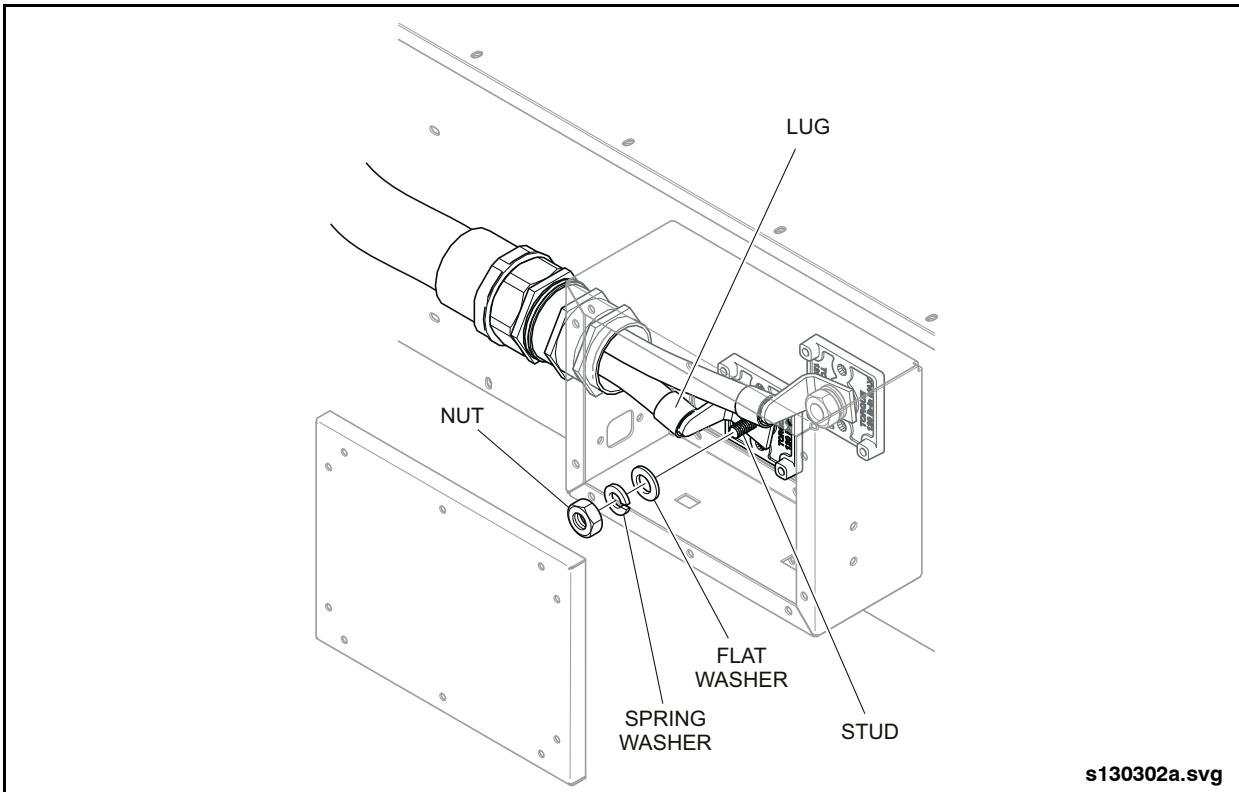

Fig. 9-7: High Voltage Lug Installation Detail
12. Install new hardware and torque fasteners to 60 to 70 in-lb. (6.8 to 7.9 Nm). See "Fig. 9-7: High Voltage Lug Installation Detail" on page 13.